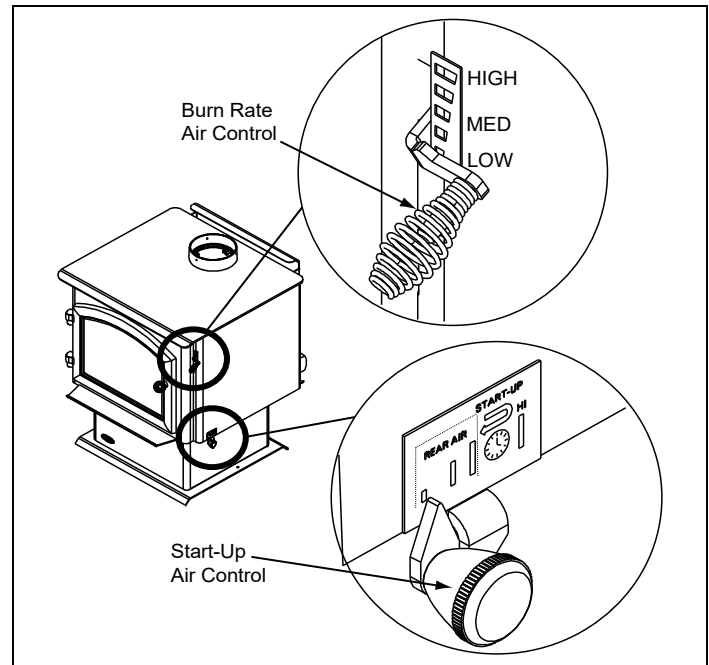

Figure 9.1
2. Second Stage - The next stage of burning, the secondary stage, is the period when the wood gives off flammable gases which burn above the fuel with bright flames. During this stage of burning it is very important that the flames be maintained and not allowed to go out. This will ensure the cleanest possible fire. If the flames tend to go out, it is set too low for your burning conditions. The air control located at the upper right hand corner is used to adjust for burn rates. This is called the Burn Rate Air Control (Figure 9.1 on page 9).
1. Burn Rate Air Control - This air supply enters at the upper front of the firebox, near the top of the glass door. This preheated air supplies the necessary fresh oxygen to mix with the unburned gases, helping to create second, third and fourth combustions. This air is regulated by the Burn Rate Air Control. When the control is moved all the way up it is on the High setting and when moved all the way down it is on the Low setting (**Figure 9.1**).
1. Start up and Reloading Fuel - Open both Burn Rate Air Control and ACC systems fully. To do this with the Burn Rate Air Controls push spring handle up to high. For the ACC timer system push knob towards back of appliance until the knob is located under the high position (**Figure 9.1**).
2. Maximize Heat with The ACC System - To maximize heat output with the ACC timer System or also known as high burn push the ACC Air Control lever towards the back of the appliance and leave. This combined with having the main burn rate control lever pushed up will deliver the most amount of air needed to achieve the highest amount of heat output (**Figure 9.1**).
- Then activate the ACC timer system by pushing the knob all the back toward the appliance to “HI” then pull forwards towards the front of the appliance until the knob stops (Figure 9.1 on page 9).